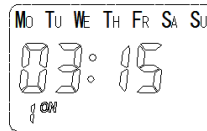

Figure9
4.2.3.2 Set 1ON (first group of bell) time: press the "MD" key to enter first bell time set, respectively, according to "◀" turn into minutes, hours, weeks mode setting, then set bit flashes, such as Figure9, press the "+" " - " buttons to set Working clock, The days will work on behalf of the week mode of light. After setted, Press "MD" key to enter 2ON (second group of bell) time set.